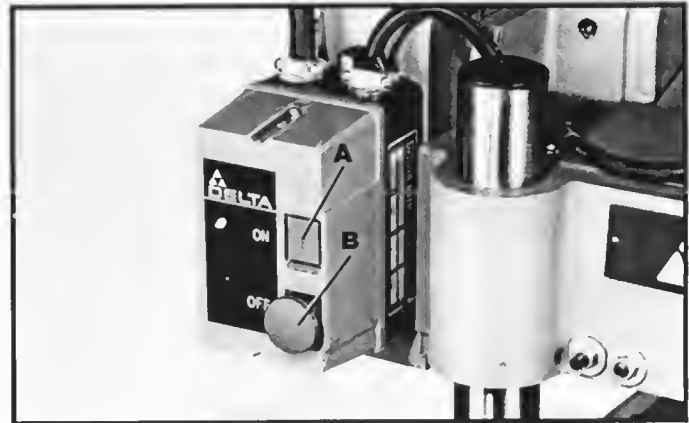

Fig. 22
On the three phase machine the switch is located on the front of the belt guard, as shown in Fig. 22. To turn the machine "ON" press the start button (A) and to turn the machine "OFF" press the stop button (B).